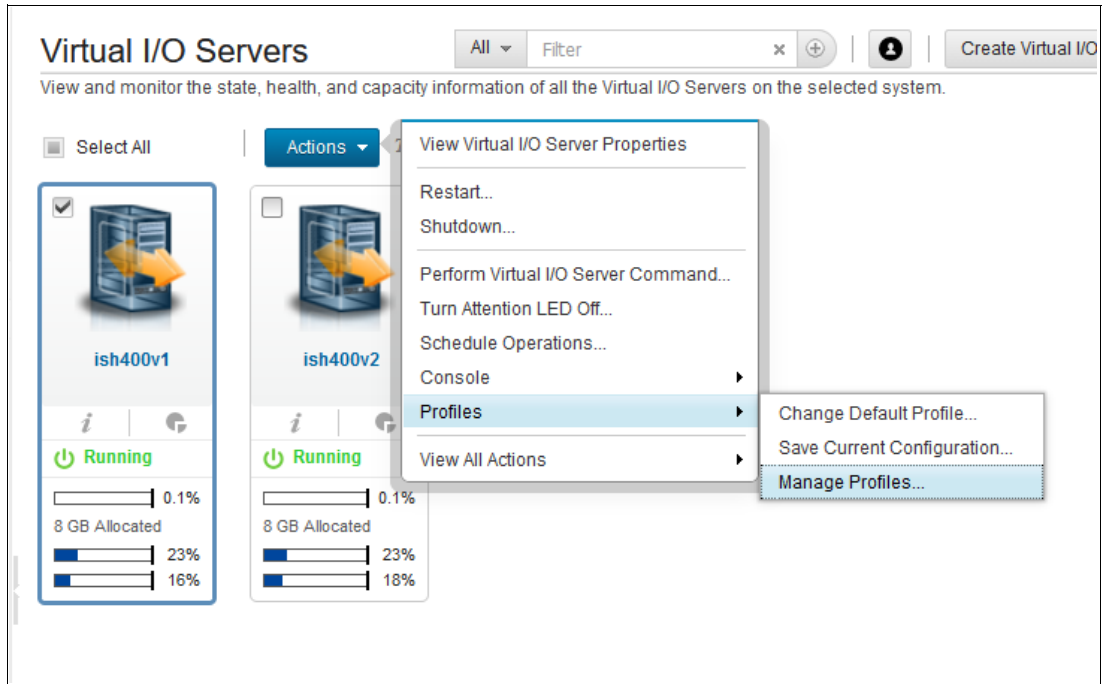

Figure 2-6 VIOS profile on the HMC
- b. Select the VIOS partition on which the virtual FC server adapter will be configured. Then, select **Actions** → **Profiles** → **Manage Profiles**, as shown in Figure 2-6 on page 23.